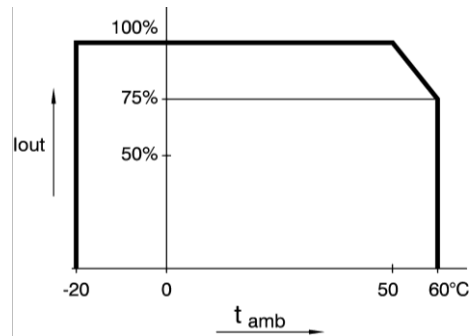

Figure 6.10: Operating temperature ranges. Note the current derating is the same for either sink or source mode.
- At full power, the operating temperature range is –20 to +50 °C. From 50 to 60 °C the output current (either positive or negative) has to be derated linearly to 75% at 60 °C, see Figure 6.10. These temperatures hold for normal operation, i.e. the air intakes & air outlets on the left and right side must be free.